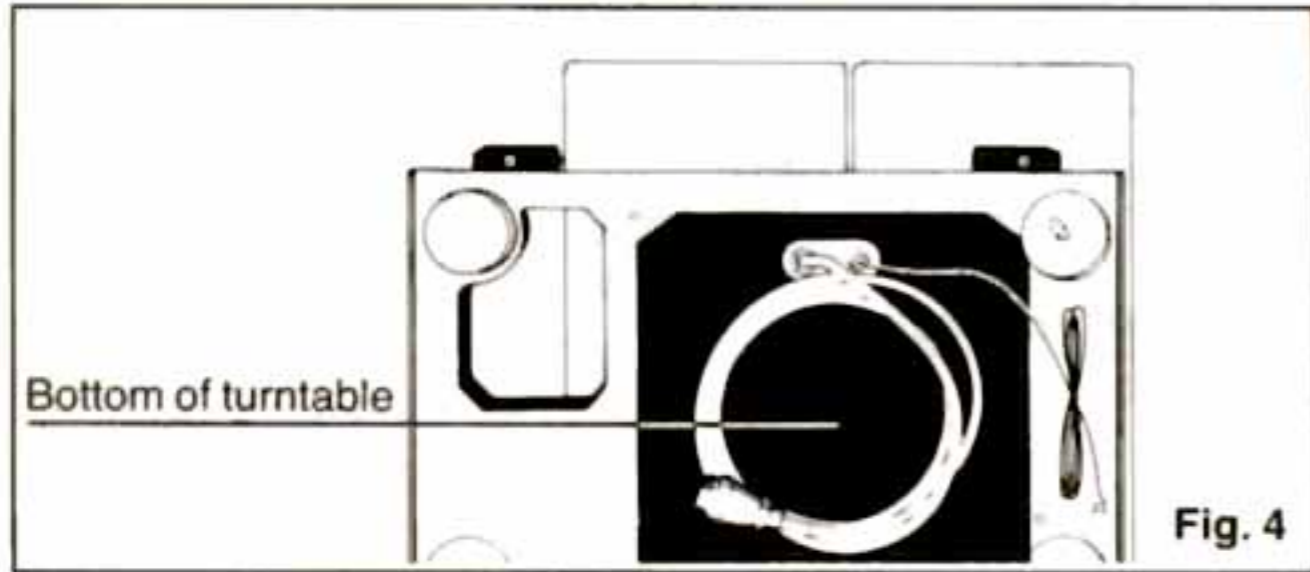

Fig. 4
③ Install the turntable, with its bottom facing upward, as shown (Fig. 4).